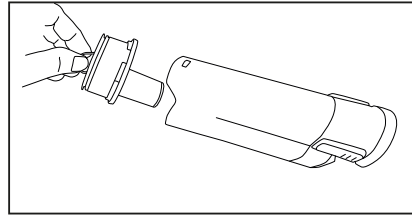

Fig. 5
2. Pull the metal ring to remove the filter cartridge from the dust bin (Fig. 5).
4. Align the filter cartridge to the dust bin and slide into place (Fig. 5).